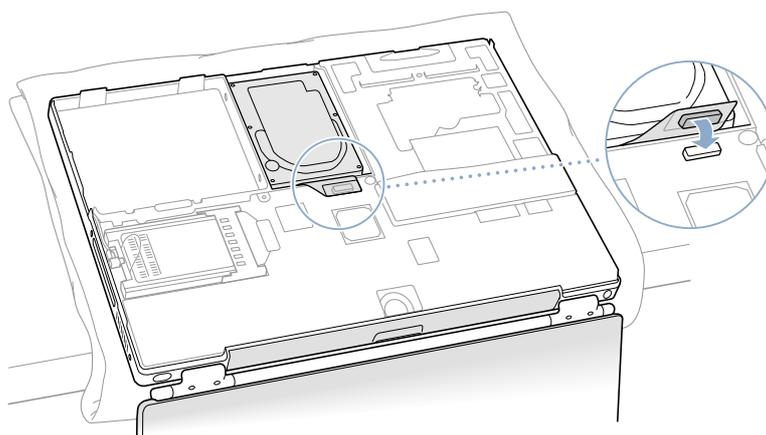

Figure 14
7. Connect the hard drive cable connector (**Figure 14**) to the logic board.